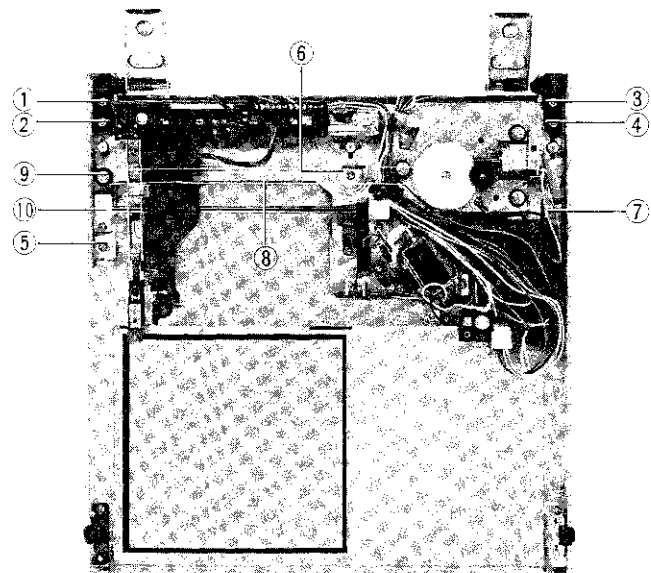

Fig. 7
5-(3) Removal of mechanism base ass'y (Fig. 7)
1. Remove the securing screws ①-④ of the right and left hinges.
2. Remove securing screws ⑤-⑦, then take out the mechanism cover.
5-(4) Removal of tonearm ass'y (Fig. 7)
1. Remove carrier rope ⑧ from roller ⑨.
2. Remove shaft bracket ⑩, then take the tonearm off the shaft (arm rail).